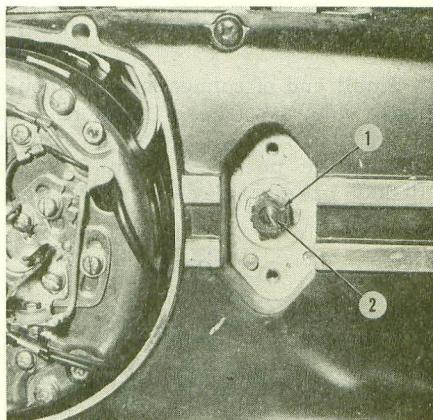
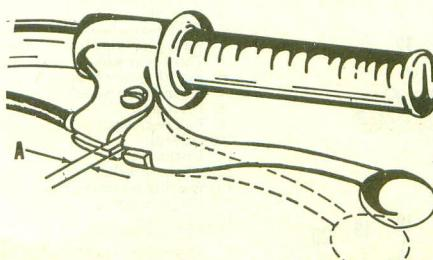

Fig. Y11-8—Clutch adjustment point on left side of engine.
Fig. Y11-9—Adjust clutch cable to obtain 2-3MM free play at (A).
**CLUTCH CONTROLS.** To adjust clutch, remove the small cover on left side of engine case. Loosen lock nut (1—Fig. Y11-8) and turn screw (2) in until it seats lightly. Back screw out  $\frac{1}{4}$  turn and tighten lock nut. The clutch lever should be adjusted to provide 1/16-1/8 inch free play. Refer to Fig. Y11-9.